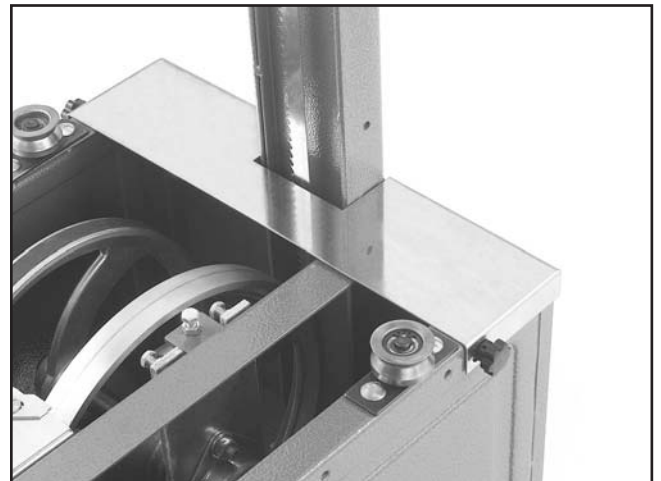

Figure 19. Table guard installed.
1. Place the table guard around the bandsaw throat on the top edge as shown in **Figure 19**.